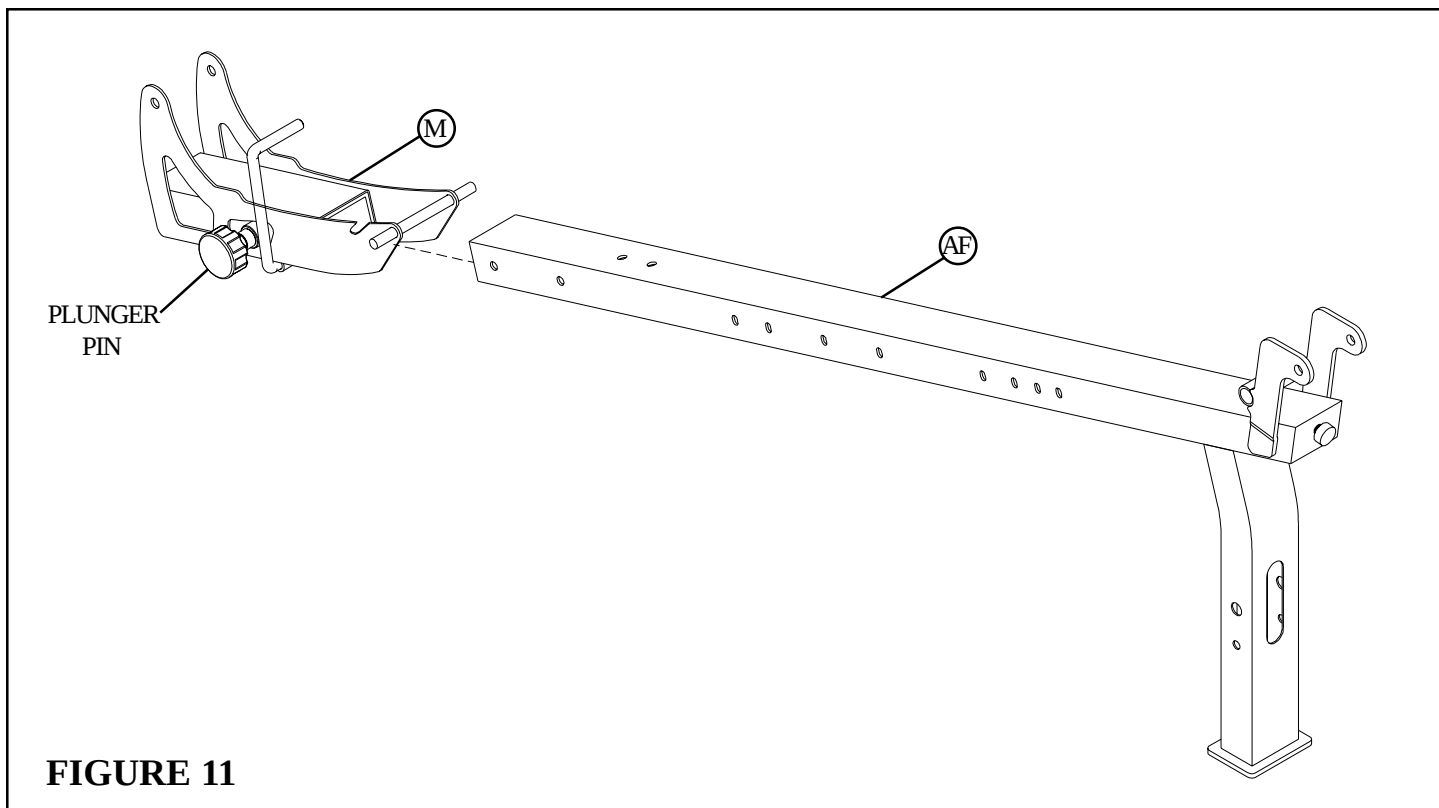

**FIGURE 10**
- Assemble the PEC HANDLE (P) to the LEFT PEC FLY ARM (S) using one 1/2 X 3/4" BUTTON HEAD BOLT (20) and one 1/2" WASHER (21) as shown in FIGURE 10.
- Assemble the PEC HANDLE (P) to the RIGHT PEC FLY ARM (T) using one 1/2 X 3/4" BUTTON HEAD BOLT (20) and one 1/2" WASHER (21) as shown in FIGURE 10.